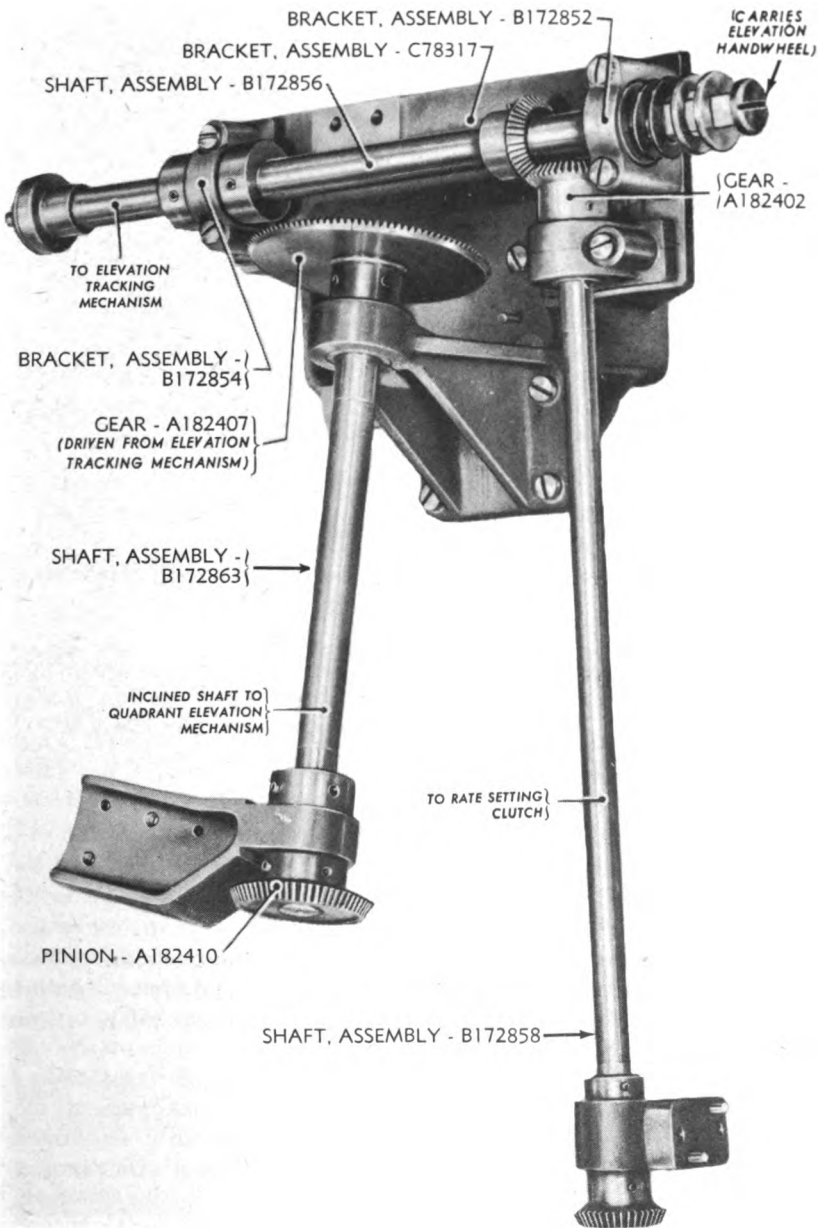

Figure 35 — Elevation Differential Drive Shaft Group Assembly D43779
b. **Elevation Differential Drive Shaft Group Assembly D43779.** This assembly includes the elevation handwheel shaft and a geared shaft to the rate setting clutch (fig. 35). It differs from the azimuth